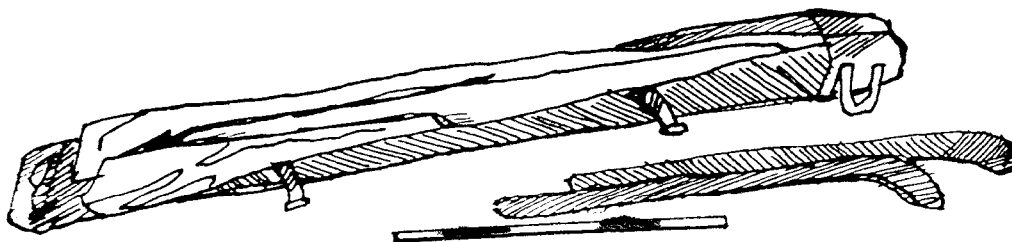

Fig.9
2.2.4. Turn the glider so that the downtubes packed into the safety bags are on the bottom and kingpost is on the top (Fig.9).